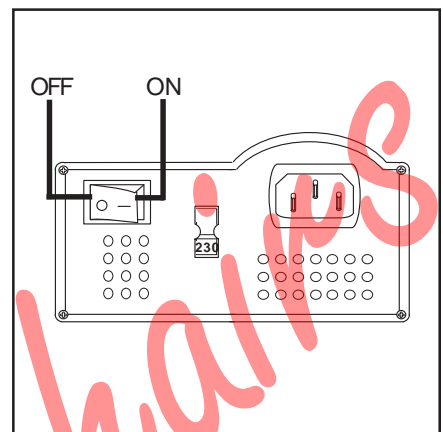

Figure 8A. Charger On/Off Switch
5. Make sure the battery charger switch is in the “off” position. See figure 8A.